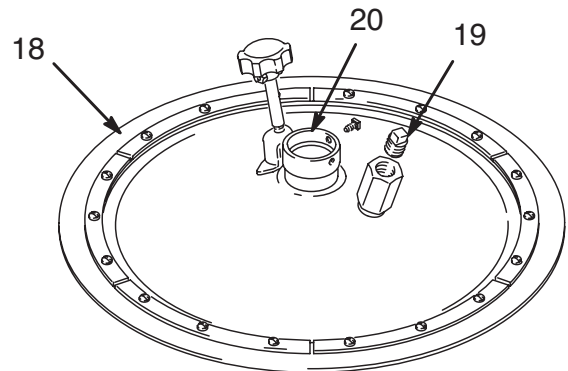

FIG. 6
Refer to FIG. 6 for Steps 1-3 below.
1. Lubricate the o-ring (20) in the inductor plate (18) with light, waterproof grease. (FIG. 6)
2. Mount the pump on the pump support (64) so the fluid outlet faces front.
3. Guide the pump intake valve as far as possible into the inductor plate, then tighten the set screws (19). Continue with Step 4 below.